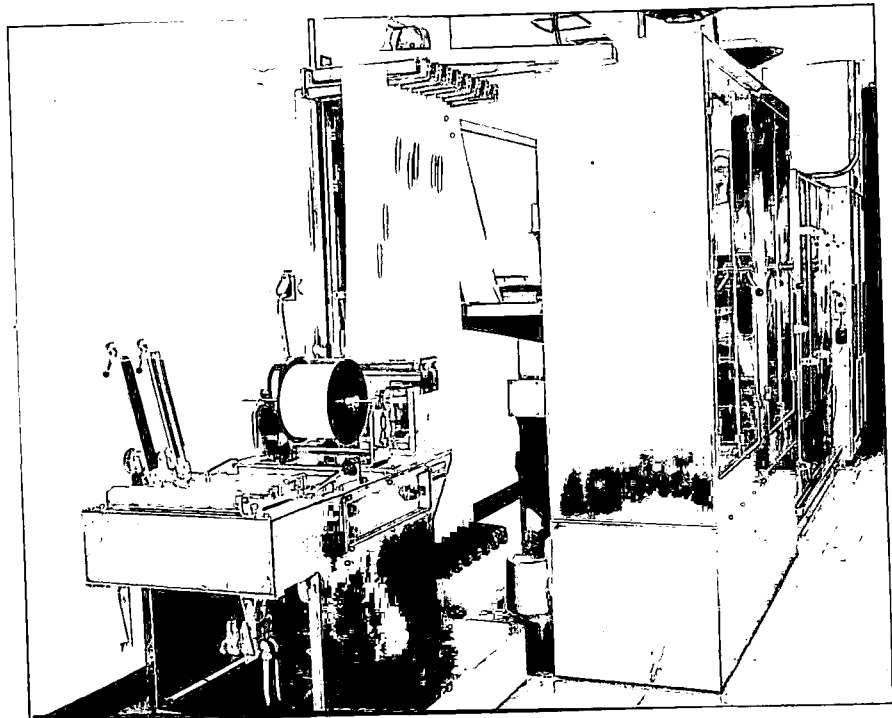

FIGURE 60
- Figure 60 - Viscous Dalton Film Processor